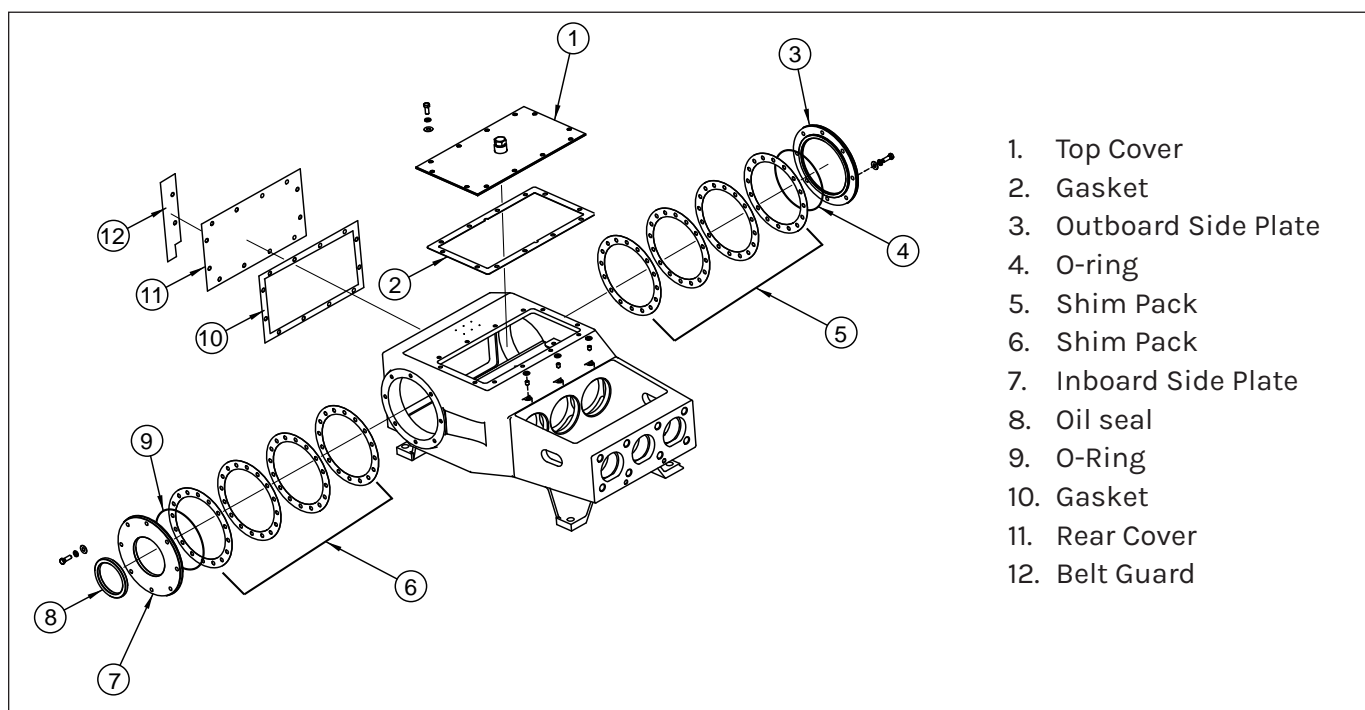

Figure 180: Power End Covers.
4. Remove the 12 capscrews and washers that secure the top cover (Figure 180) to the power frame. Remove the cover and the gasket.
5. Remove the 12 capscrews and washers that secure the rear cover (Figure 180) and belt guard to the power frame. Remove the cover, guard and gasket.
7. Remove the eight capscrews and washers that secure the inboard side plate (Figure 180) to the power frame.
9. Remove the eight capscrews and washers that secure the outboard side plate (Figure 180) to the power frame.